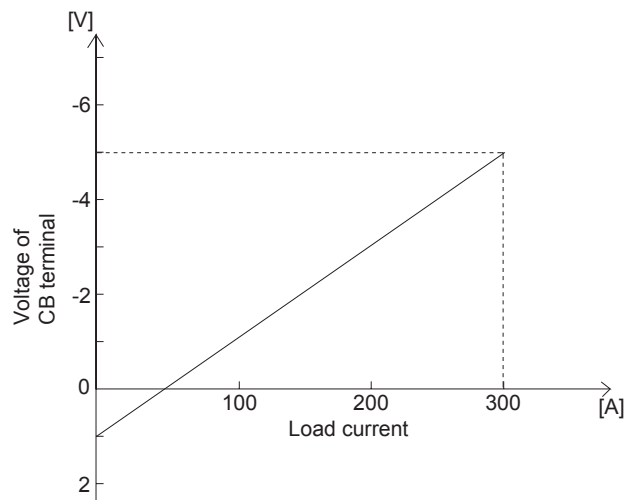

Fig.6.1 Load current conversion graph(PBA1500F-5)
■ Fig.6.1 shows the relationship between the voltage of the terminal CB and the output current.
Fig.6.1 shows a typical characteristic of PBA1500F-5. Please contact us for the characteristics of the other models.
The output current shown in Fig.6.1 should be used only as a guide.